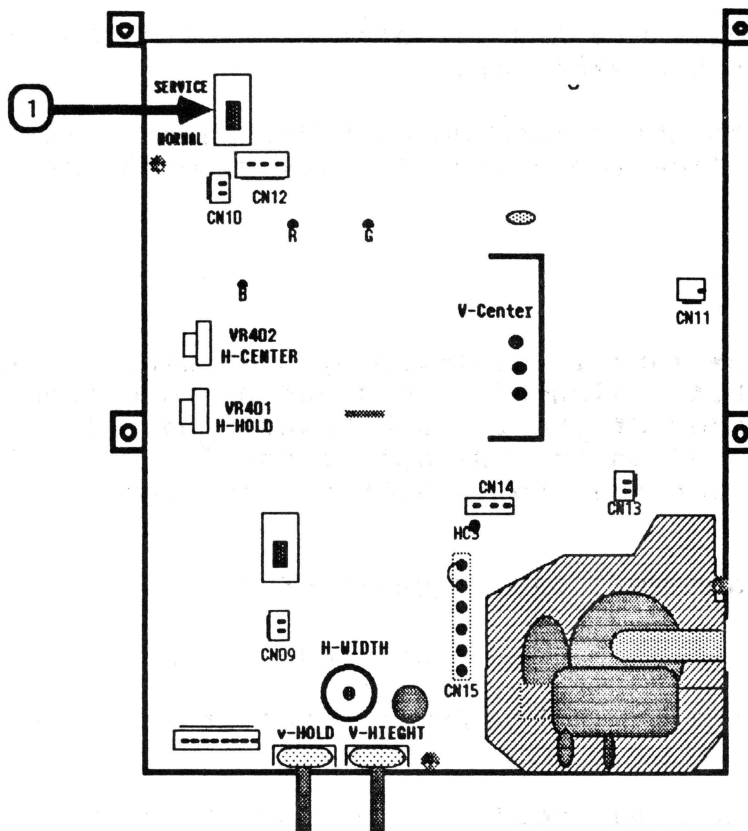

FIGURE 7
5. Use the eraser end of a pencil, or another nonconductive tool, to push Switch (SW) 101 (Figure 7, #1) to the SERVICE position.
10. Turn off the monitor and switch SW 101 (Figure 7, #1) back to the NORMAL position.